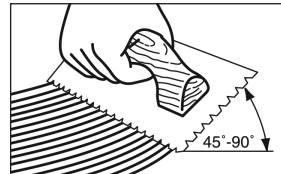

Figure 9
- Hold the trowel at a minimum 45 degree angle (Figure 9) firmly against the subfloor to obtain a 50-60 ft.² (4-5.5 m²) per gallon spread rate. The trowel will leave ridges of adhesive and very little adhesive between the ridges. This will allow you to still see the chalk lines between the ridges and provide the recommended spread rate.